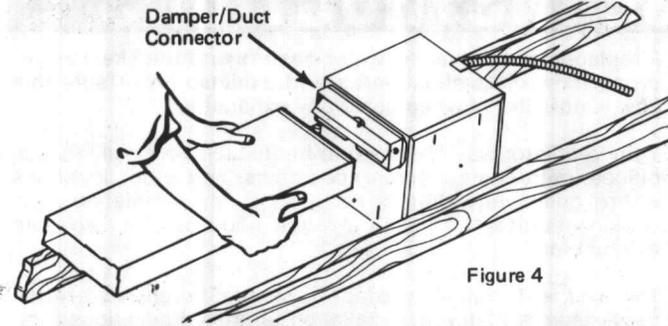

Figure 4
5. **Connect Ductwork** - Connect ductwork to damper/duct connector. (Fig. 4) Tape all joints with duct tape.